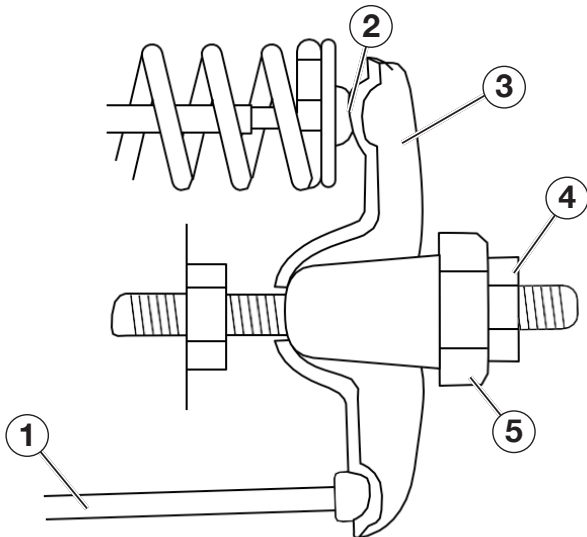

Figure 26
5. Insert a feeler gauge between the rocker arm and the push rod and check for clearance (see Figure 26). See Table 3 for valve lash specifications.